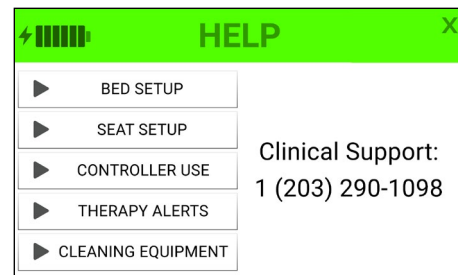

Figure 19. Video menu screen
3. A menu will appear. Press any topic to view the corresponding tutorial video. (Fig.19)